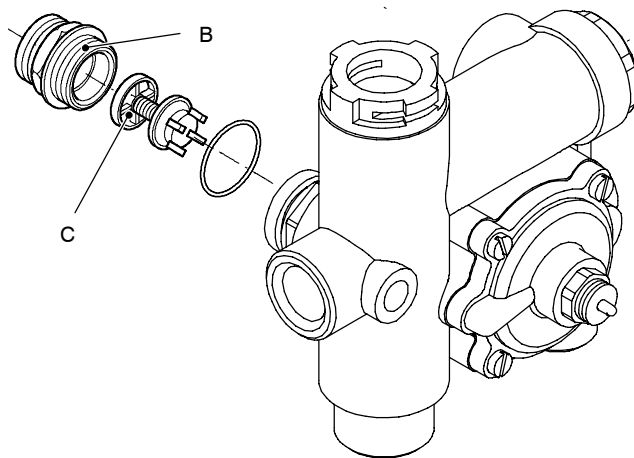

Fig. 73
- 4 Unscrew the connector B and remove the by-pass valve C (Fig. 73).
- 5 Reassemble the by-pass valve as illustrated in Fig. 73 reversing the order of removal.